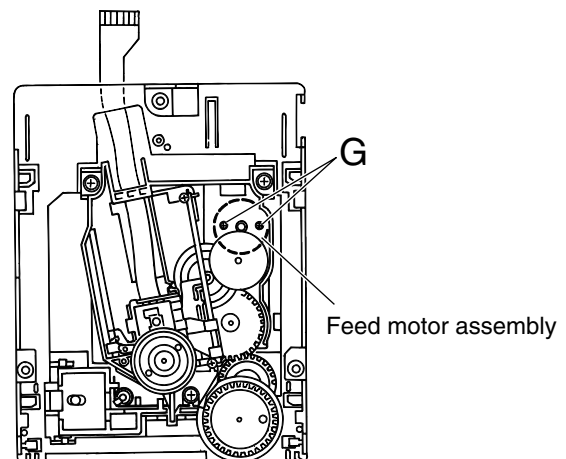

Fig. 17
■ Removing the feed motor assembly (See Fig. 17)